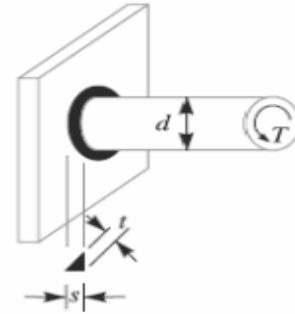

Fig. 1. Circular fillet weld subjected to torsion.
1. Circular fillet weld subjected to torsion. Consider a circular rod connected to a rigid plate by a fillet weld as shown in Fig. 1.